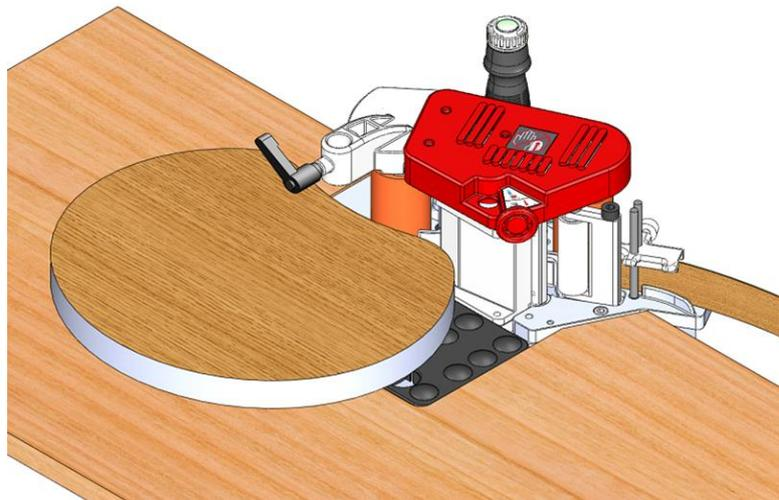

Fig15
- Now small parts can easy banded (Fig15)